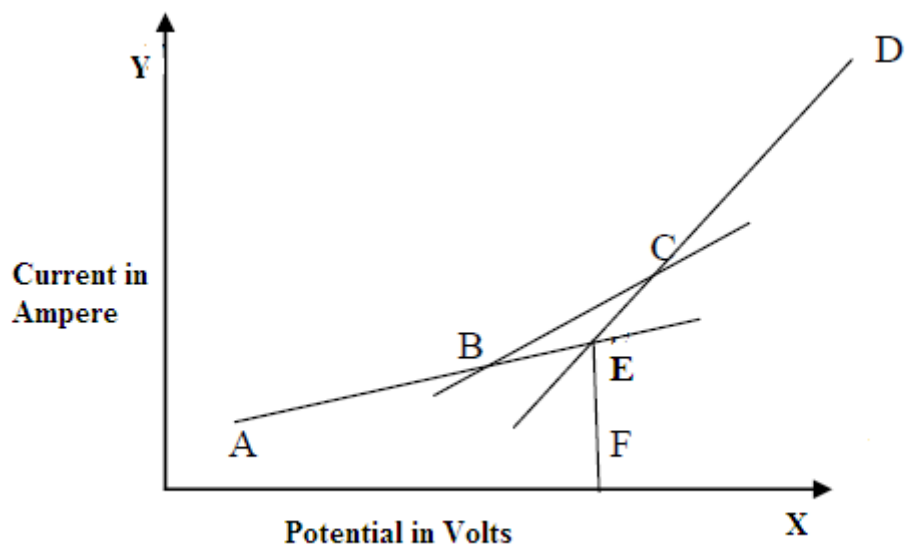

Fig 3: Variation of filament current with applied voltage.
To find the value of ionization potential the two straight portions AB and CD of the graph are produced to meet at a point E. If we draw a perpendicular EF on the X-axis, then OF represents the ionization potential as shown in figure 3.
4. Taking the plate voltage along the x-axis and plate current along the y-axis plot a graph between plate current and plate voltage as shown in fig 3. Draw the straight line AB between the first few points and the straight line CD between the last few points and produce AB and DC to meet at E. Draw EF perpendicular to the X-axis, then OF gives the value of the ionization potential of mercury.